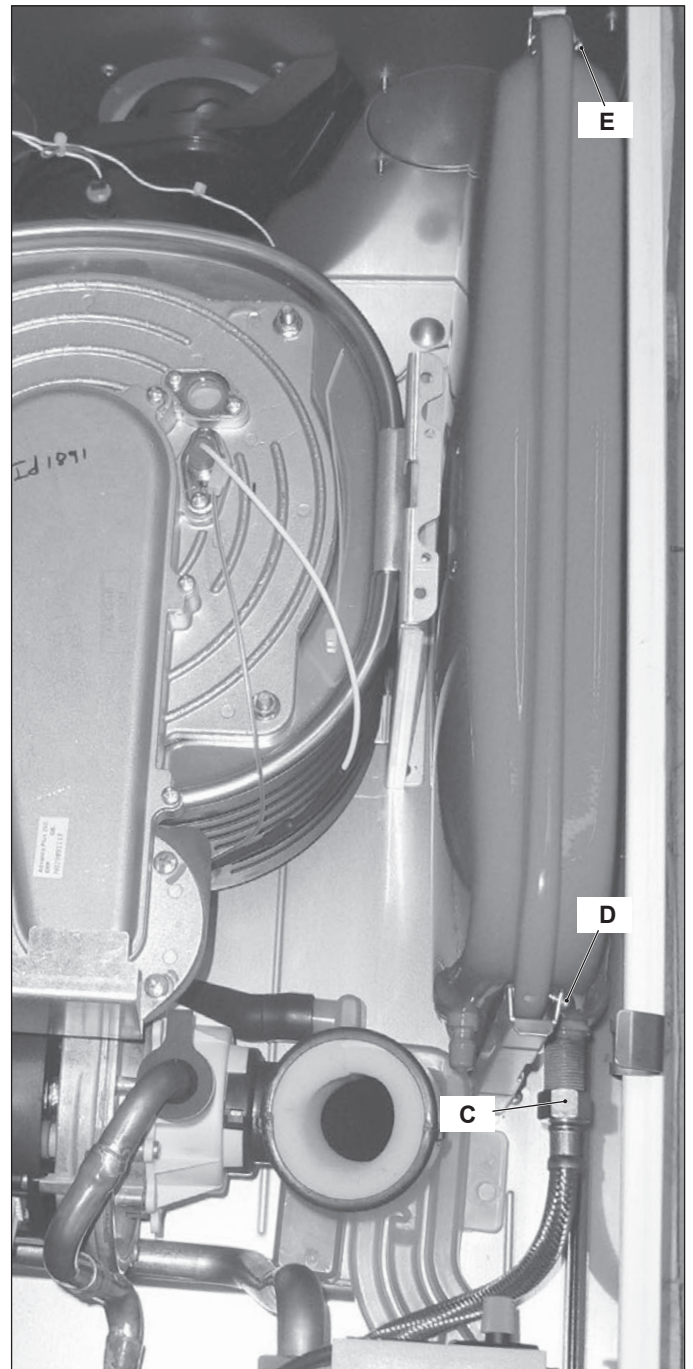

Figure 13.3
- 2 Completely unscrew the connection "C" (Figure 13.3).
- 3 Unscrew the screws "D" and "E" (Figure 13.3).